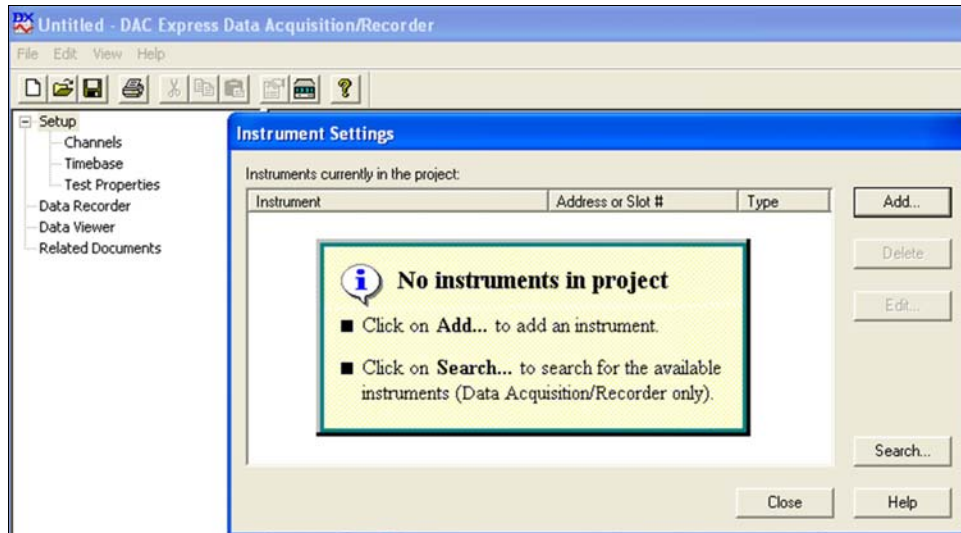

FIGURE 3-3: ADDING THE EX1048 TO A DAC EXPRESS PROJECT
- 3) A message stating that no instruments have been configured will appear. Click on the **Add ...** button (see Figure 3-3).